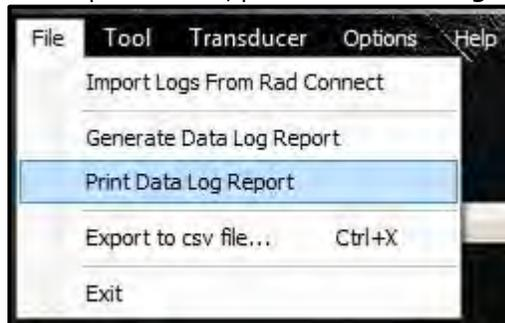

Figure 5.5-1: Print Data Log Report Button
2. In the "File" dropdown menu, press **"Print Data Log Report"** (Figure 5.5-1).